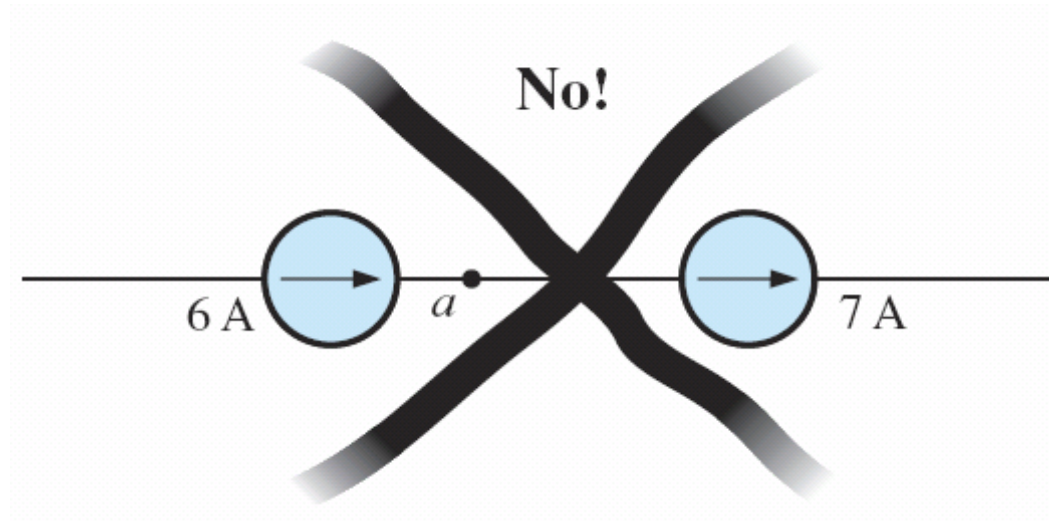

FIG. 8.18 *Invalid situation.*
- For the situation indicated at point a in Fig. 8.18, we find by application of Kirchhoff's current law that the current leaving that point is greater than that entering—an impossible situation.